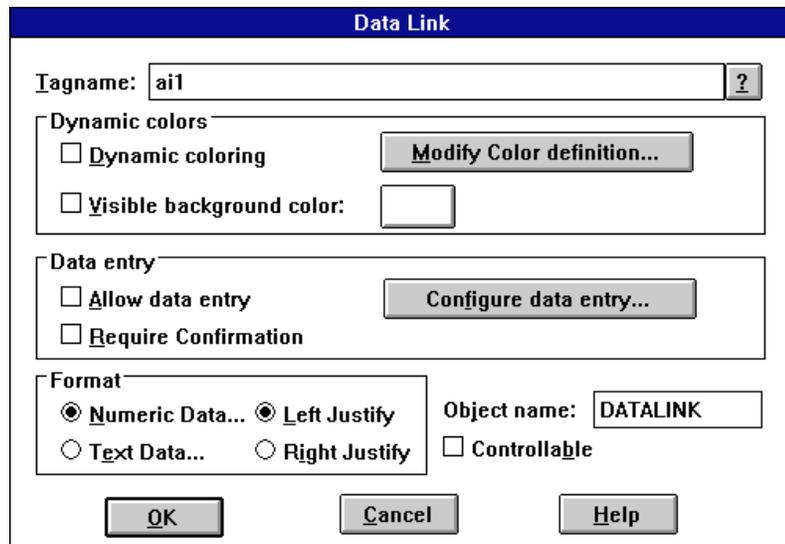

Figure 4-1 Data Link Dialog Box
3. Select the Data Link Button, , from the toolbox (or select Link... from the tool menu then select the Data Link Button) and a stamper cursor appears on the screen. Position the stamper cursor where you want the link to appear and click the left mouse button once. The Data Link dialog box appears, as shown in Figure 4-1.